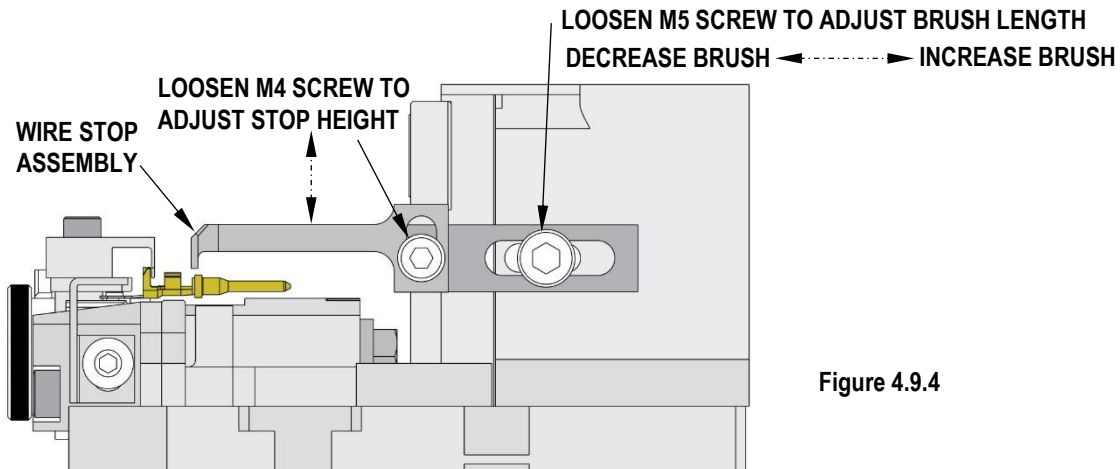

Figure 4.9.4
3. Adjust brush length by moving the wire stop assembly as follows (See Figure 4.9.4):